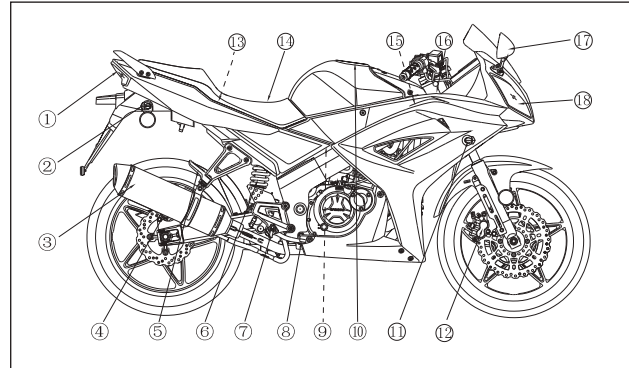

Figure 2 Right side view
2. Right Side View (Figure 2):
- ① Taillight/brake light
- ② Rear turn signal, RH
- ③ Muffler
- ④ Rear brake caliper
- ⑤ RH pedal, Passenger
- ⑥ Rear shock absorber
- ⑦ RH pedal, Driver
- ⑧ Rear brake pedal
- ⑨ Carburetor